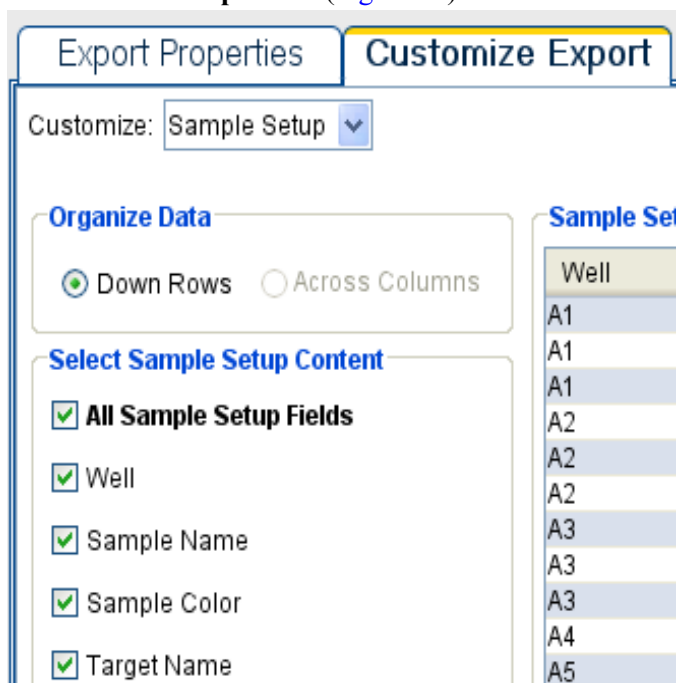

Figure 28 Customize Export tab
- a. Select the **Customize Export** tab (Figure 28).